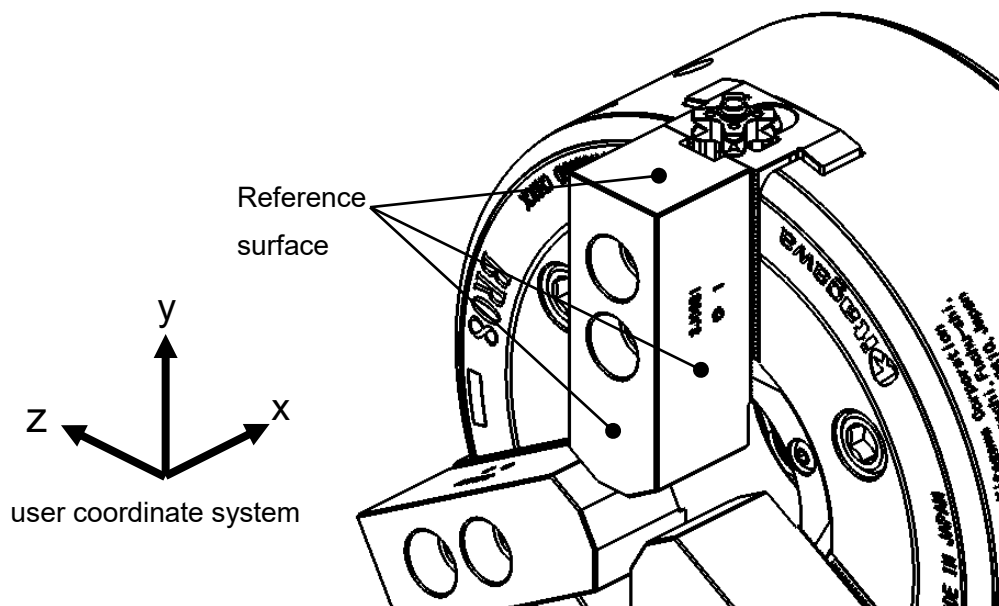
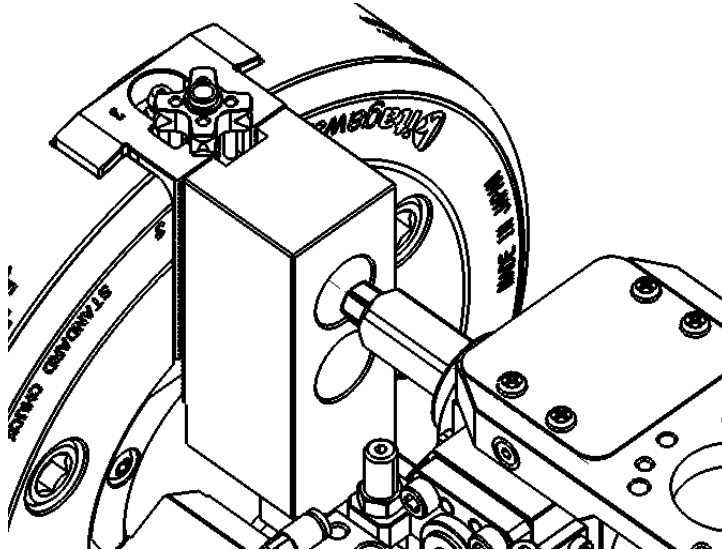
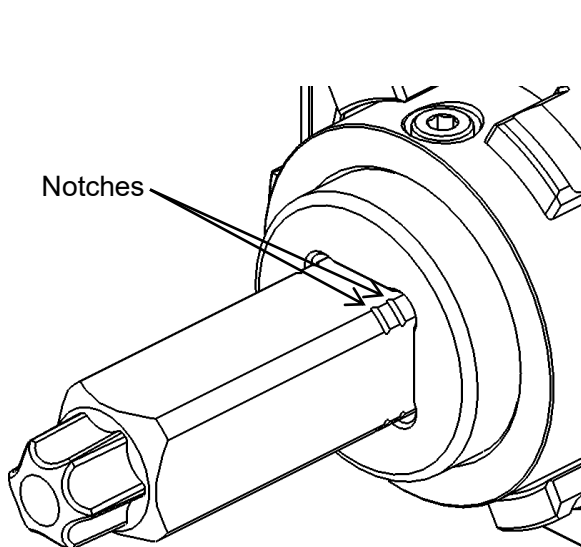
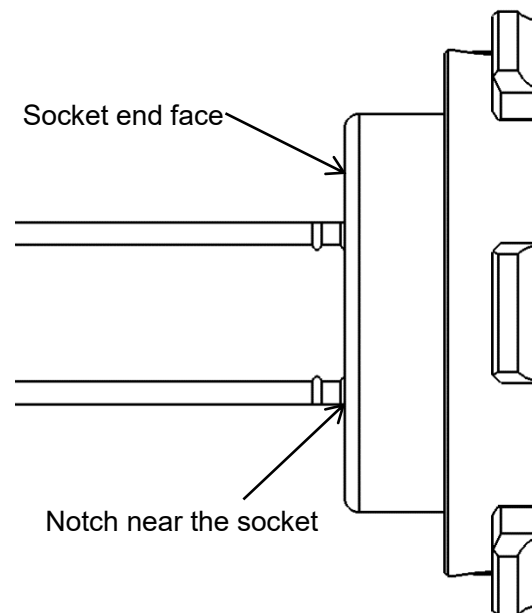

Figure 28
Figure 29
Figure 32
Figure 33
- ① Mount a jaw to the chuck and index it to the jaw change position.
- ② Create user coordinates using the reference surface of the jaw shown in Figure 28.
- ② Adjust the posture of the BR-AJC end effector so that the rotation axis of the jaw mounting bolt and that of the BR-AJC end effector are coaxial. (Figure 29)
- We recommend removing the reaction lever for good visibility. (Refer to up to ② in 7.3.1. Wrench Replacement Procedure.)
- The adjustment can be made easily by creating user coordinates with reference to the jaw (refer to 6.3.1. Creating User Coordinates) and aligning the posture of the BR-AJC end effector with the user coordinates using the reference surface (Figure 28).
- ④ Move the BR-AJC end effector to the position where the notch closer to the socket, the one of the two notches on the socket (Figure 32), is aligned with the socket end face (Figure 33).
- ⑤ Now teaching of the bolt tightening/loosening position is completed. Store the current position using functions such as the position register of the robot controller.
- For the bolt tightening/loosening position of the other jaw mounting bolt, perform teaching by offsetting the robot in the X-axis direction of Figure 28 (refer to 6.3.1. Creating User Coordinates) by the distance of the jaw mounting bolt, or using steps ② through ⑤.